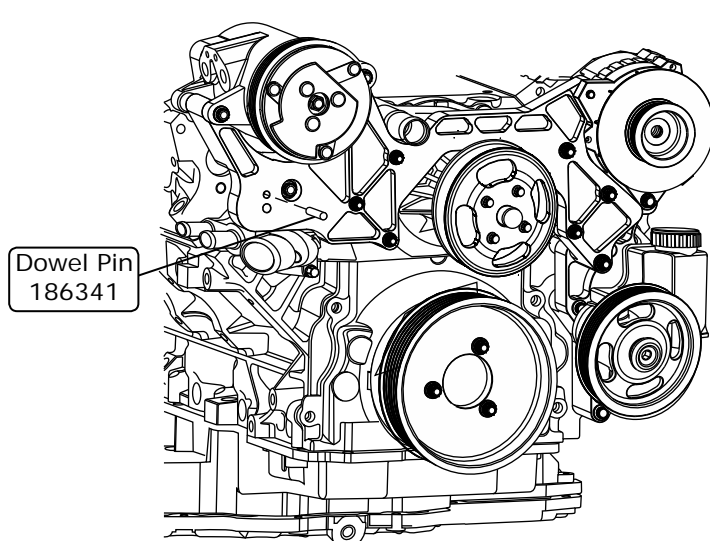

Figure 11
1. Install the .250" x 1.00" SS dowel pin into the main bracket assembly as shown in Figure 11, below. **NOTE: The dowel pin is a press fit. Use a hammer to carefully tap the dowel pin into the locating hole.**